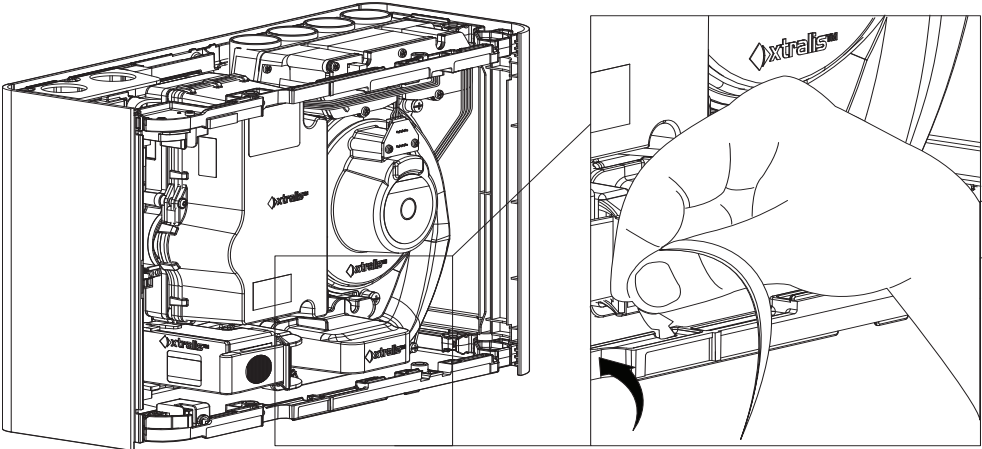
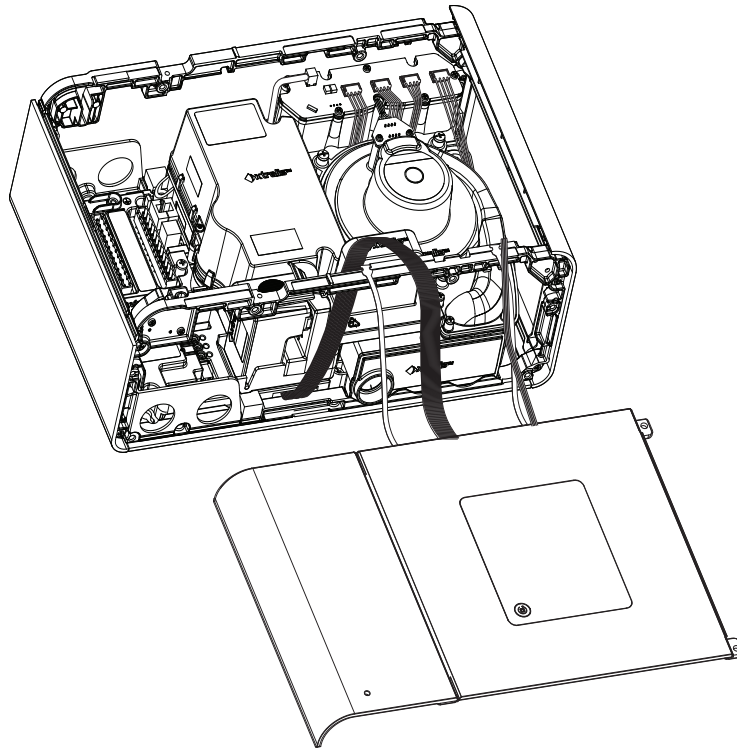

Figure 4-7: Detaching the tethers
Figure 4-8: Detector with tethers detached
- 4. Detach the tethers, Figure 4-7 and Figure 4-8. (You can leave the cables from the detector to the fascia connected.)